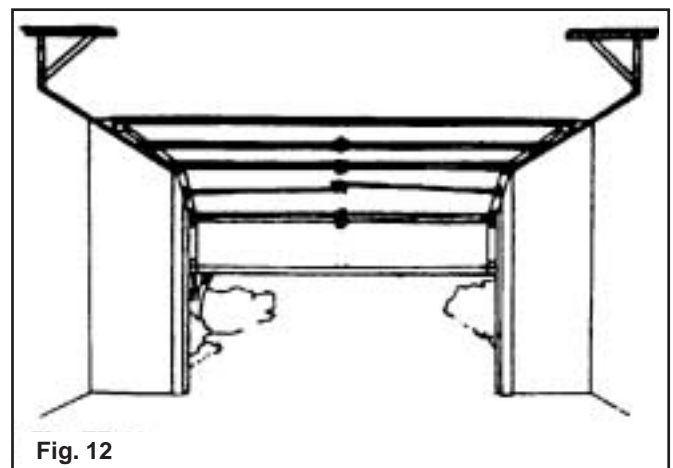

Fig. 12
Step 9: To check spring tension, carefully raise the door about halfway open. Check to be sure the horizontal tracks are parallel with each side of the door. With the door about halfway open, make sure the gap between the edge of the door and track does not exceed $\frac{1}{2}$ ". If adjustment of the rear track hangers is necessary, lower the door first and remove all tension from both springs using the instructions in Step 10 for decreasing spring tension. (FIG. 12)